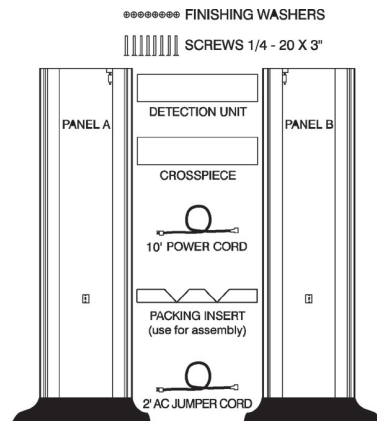

Figure 2-1
2. Arrange the major components as shown in Figure 2-1.